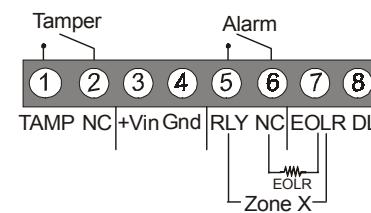

Figure 1: Terminal Block
- Wire the terminal block as shown in Figure 1. **Note: Wiring methods shall be in accordance with the NFPA 70 standard.**